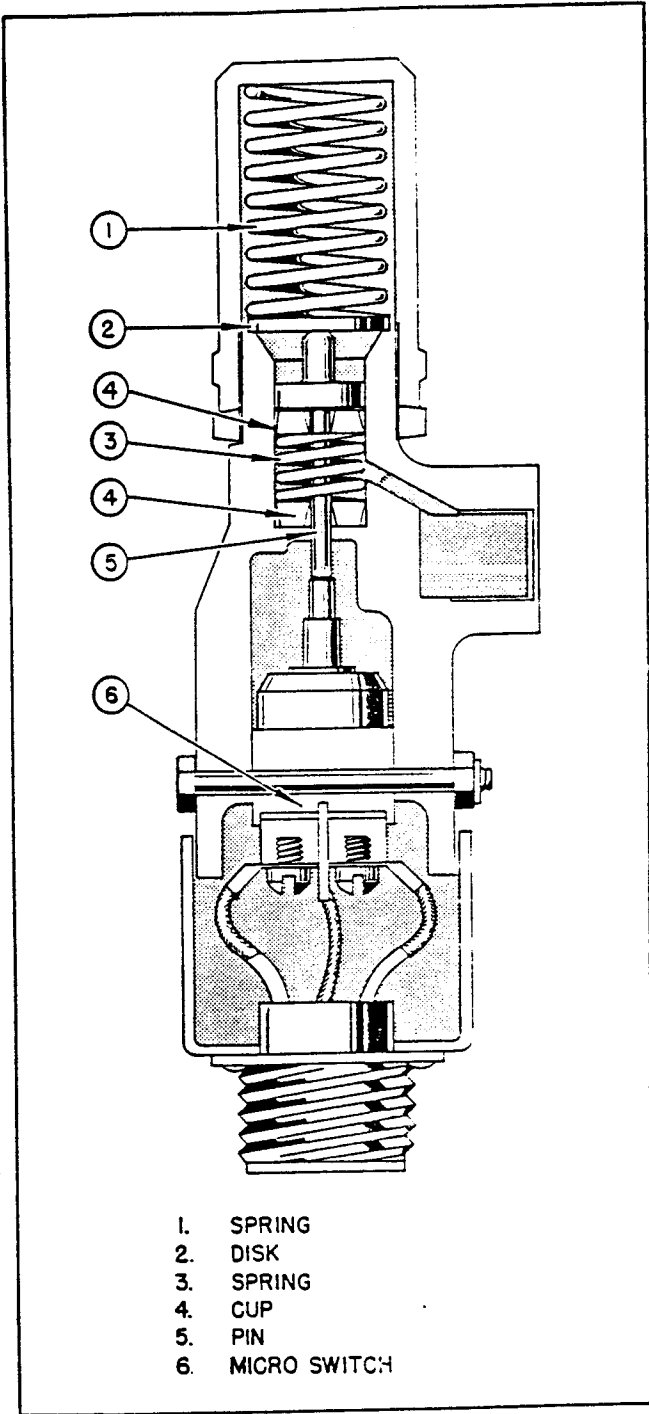

Figure 18. Pressure Switch
See figure 18.
1. In order that the unit operate correctly, it is imperative that the micro switch (reference 7, figure 18) be kept dry.
2. The adjustment of the springs (reference 16, figure 18) should be checked at the regular 25-hour inspection.
(e) DISASSEMBLY.- Refer to figure 18.
It is not necessary to remove the hydraulic parts when removing the micro switch (reference 7, figure 18).
(f) ASSEMBLY.- See figure 18.